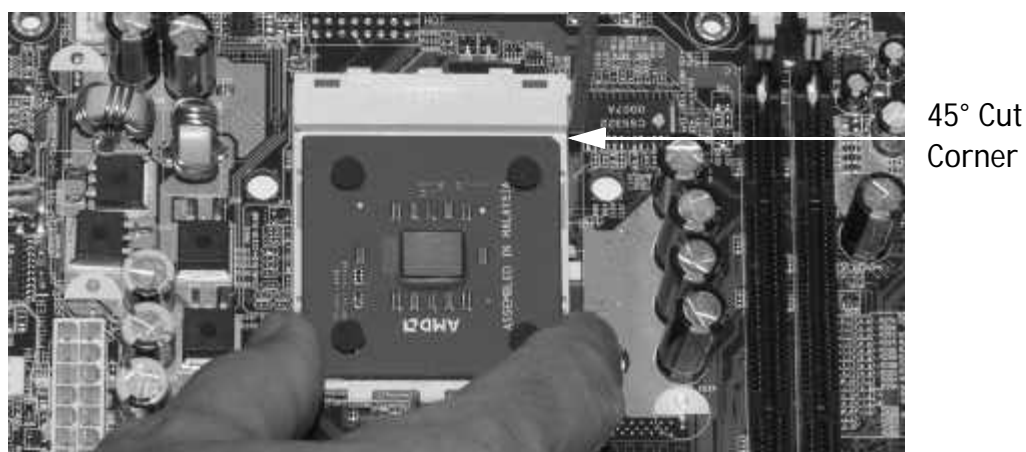

Figure 4. Placing the Processor in the Socket
- Figure 4 shows the processor dropping into the socket. Notice how the corner located near the release lever pivot is the 45° cut corner. This is verification that the processor has been installed properly.